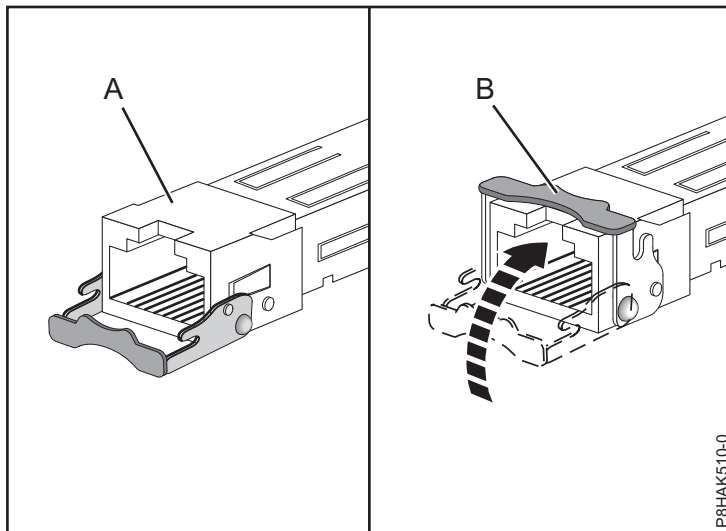

Figure 80. Replacing SFP transceivers in the adapter
- c. With the latch **(B)** in the open position, push the latch by rotating it up and toward the card as shown in Figure 80 on page 87.